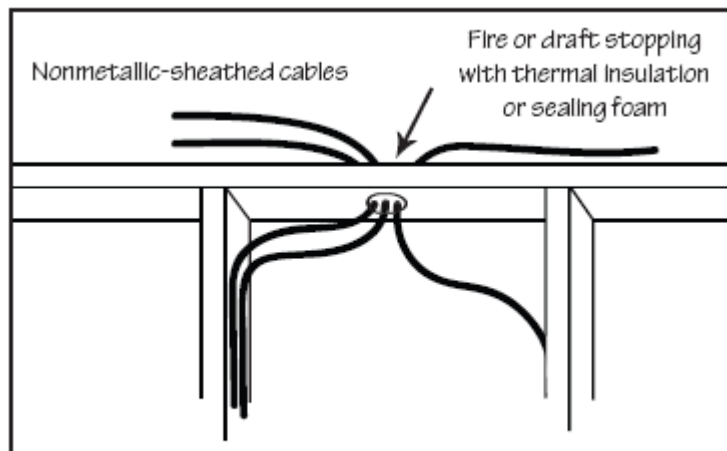

Figure 7.1.2: Two or more cables through fire or draft stopping
Where more than two Type NM-B cables containing two or more current-carrying conductors are installed, without maintaining spacing between the cables, through the same opening in wood framing that is to be sealed with thermal insulation, caulk, or sealing foam, the allowable ampacity of each conductor shall be adjusted in accordance with NEC Table 310.15(C)(1) and the provisions of NEC Section 310.14(A)(2), Exception, shall not apply. See Figure 7.1.2.